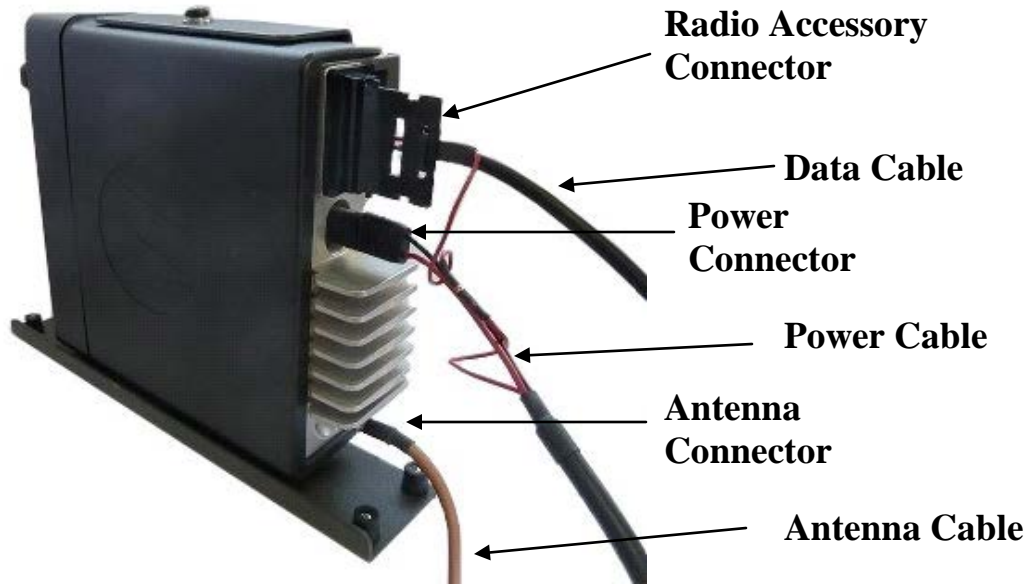

Figure 21-52 MotoTrbo Radio Cable Connections
2. Connect the USB connector of the USB data cable (FKN8644A) to one of the USB host ports on the ACE3600 CPU module. Connect the other side of the cable (26-pin connector) to the Accessory connector on the radio. (See Figure 21-52.)